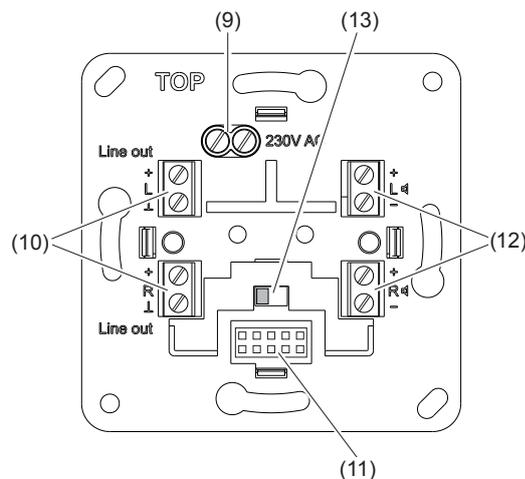

Figure 2: Connections
- Connecting operating voltage to terminals 230 V AC (figure 2, 9).
- Attach the loudspeaker to the terminals \square (figure 2, 12).
- Set operating mode **Stereo** or **Mono** if necessary by means of changeover switch (figure 2, 13).
- ① If just one loudspeaker or single-channel audio device is connected, the mono mode is recommended. On the **Mono** switch position there is a mono sum signal at the outputs.
- Connect external device to the terminals **Line out** (figure 2, 10). Use shielded cables for interference-free audio transmission. Connect the shield to the terminal \perp according to the terminal labelling.